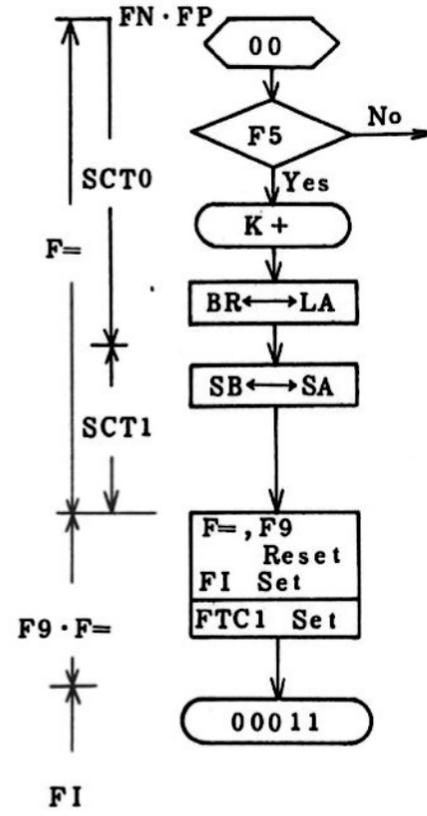

Fig. 5-5 Flow Chart of Repeat Addition
4.3-2 Wiederholte Addition (Fig. 5-5)